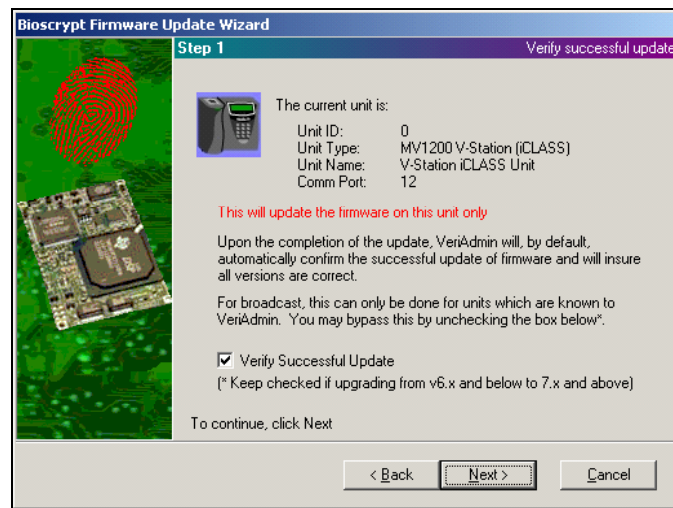

Figure 49: Firmware Update Wizard – Step 1
- **Step 1** of the wizard (see Figure 49) indicates which unit(s) are to be updated and allows the user to specify if they would like VeriAdmin to automatically verify the update when finished. This option should always be checked, except in the event the user will be manually confirming the firmware update or he does not want to wait for VeriAdmin to confirm success at the completion of the update. It is especially important to allow VeriAdmin to perform this task if the wizard determines that a "step" firmware update is necessary.